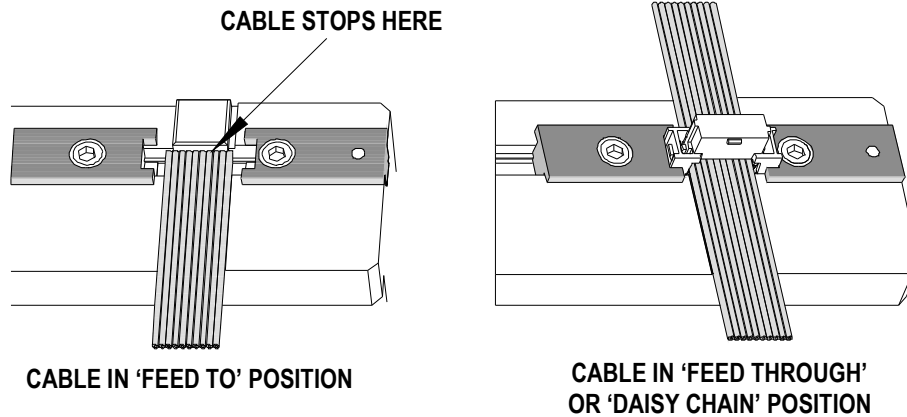

Figure 8
4. Load the cable making sure it is locating in the cable guides and sliding it into the connector assembly until it contacts the cable stop, or until it is at the correct length. See Figure 8.